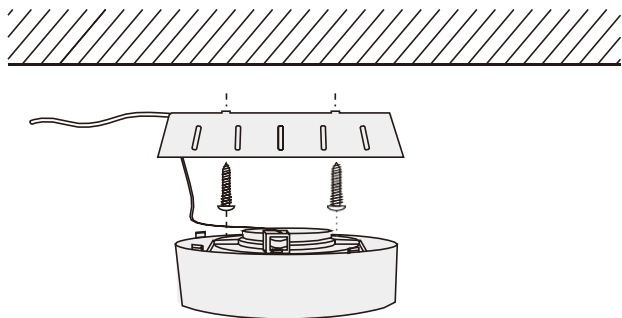

Figure 2
2. Select the appropriate position, and install the rear cover of the loudspeaker into the ceiling with 4 x M4 screws (As shown in the figure 2).